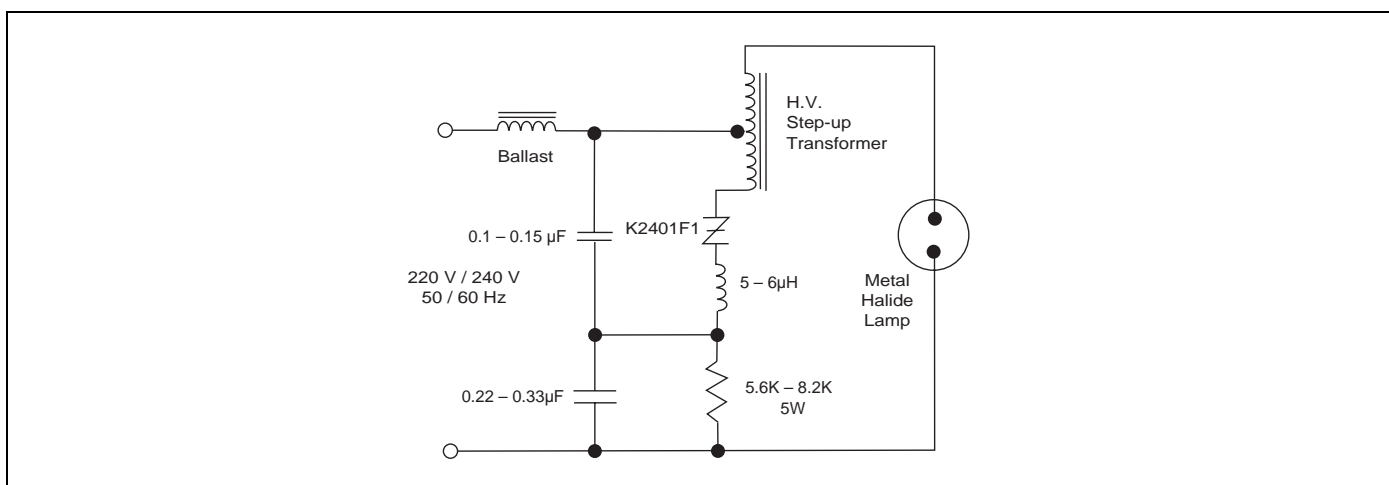

Figure E9.17 Typical Metal Halide Ignitor Circuit
- The K2401F1 sidac is designed to ensure good commutation at higher switching frequencies, as required in ignitor circuits for high intensity discharge (HID) lighting. A typical circuit for a metal halide lamp ignitor is shown in Figure E9.17. With proper component selection this circuit will produce three pulses for ignition of Osram lamp types such as HQI-T70W, HQI-T150W, and HQI-T250W which require a minimum of three pulses at 4 kV magnitude and  $>1 \mu s$  duration each at a minimum repetition rate of 3.3 kHz.